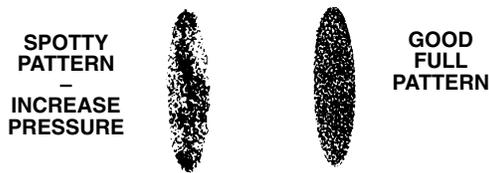

Fig 11-1
- Increase the pressure setting just until spray from the gun is completely atomized. See Fig 11-1. To avoid excessive overspray and fogging, and to decrease tip wear and extend the life of the sprayer, always use the lowest possible pressure needed to get the desired results.